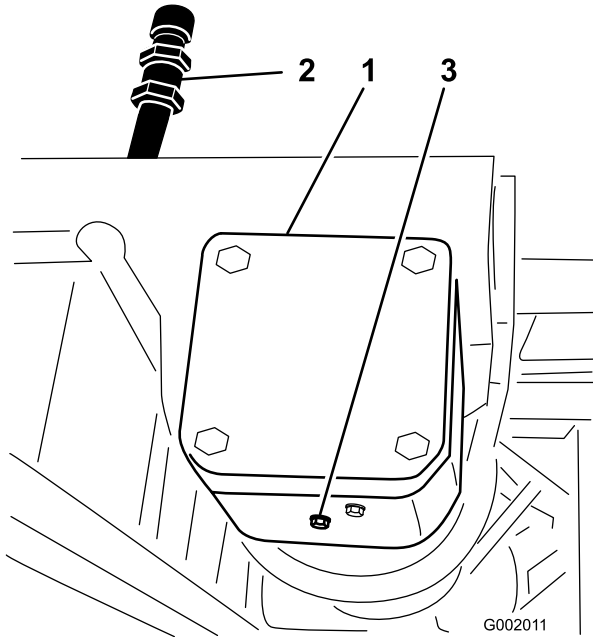

Figure 73
2. Place a pan under the drain plug on the pump drive gear box (Figure 73).
3. Remove the fill plug and drain plug (Figure 73), allowing the oil to drain into the pan.